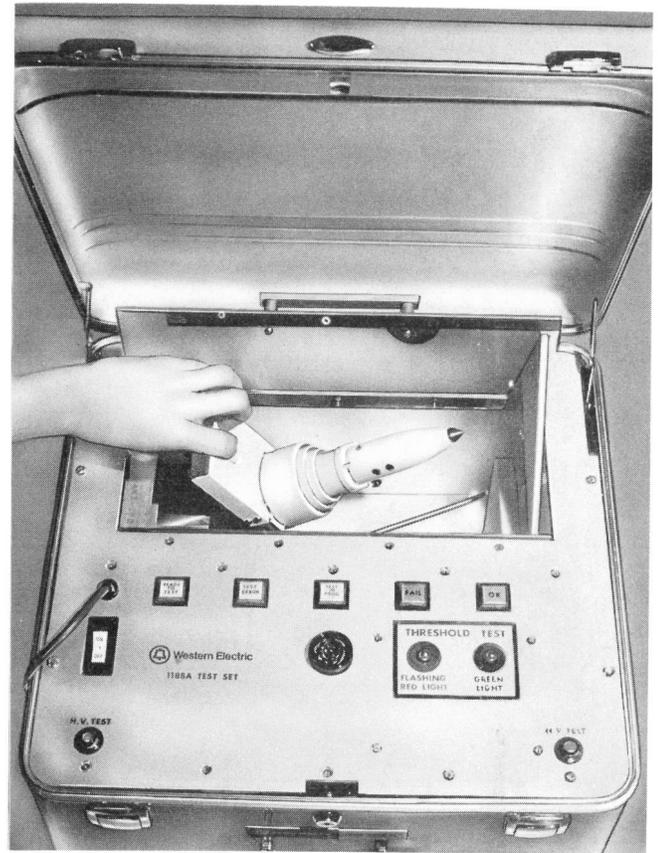

Fig. 5—Lowering 188A Test Set
- Lower test probe. **Do not drop. Do not slam test lid shut.** The 1188A test set will not operate unless a 188A test set is inserted in the test probe socket and the test lid is closed (Fig. 5 and 6).